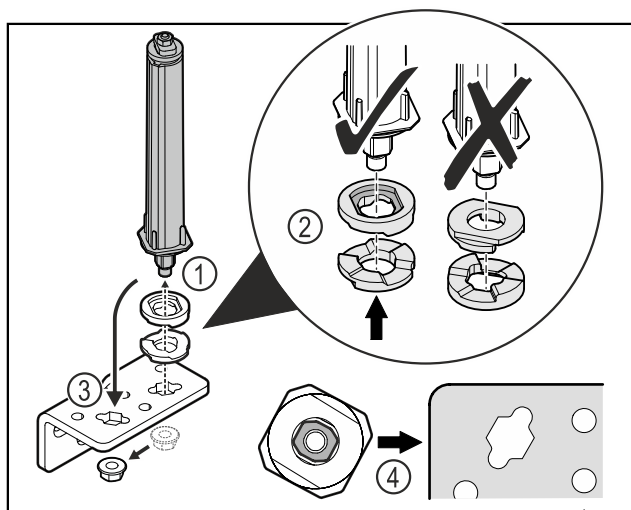

Fig. 40
- Loosen the nut and remove the door closing system Fig. 40 (1).
- Observe the correct alignment of the height adjustment washers Fig. 40 (2).
- Put the door closing system in the hinge fix in place with the nut Fig. 40 (3).
- Observe the correct alignment of the door closing system when doing so Fig. 40 (4).